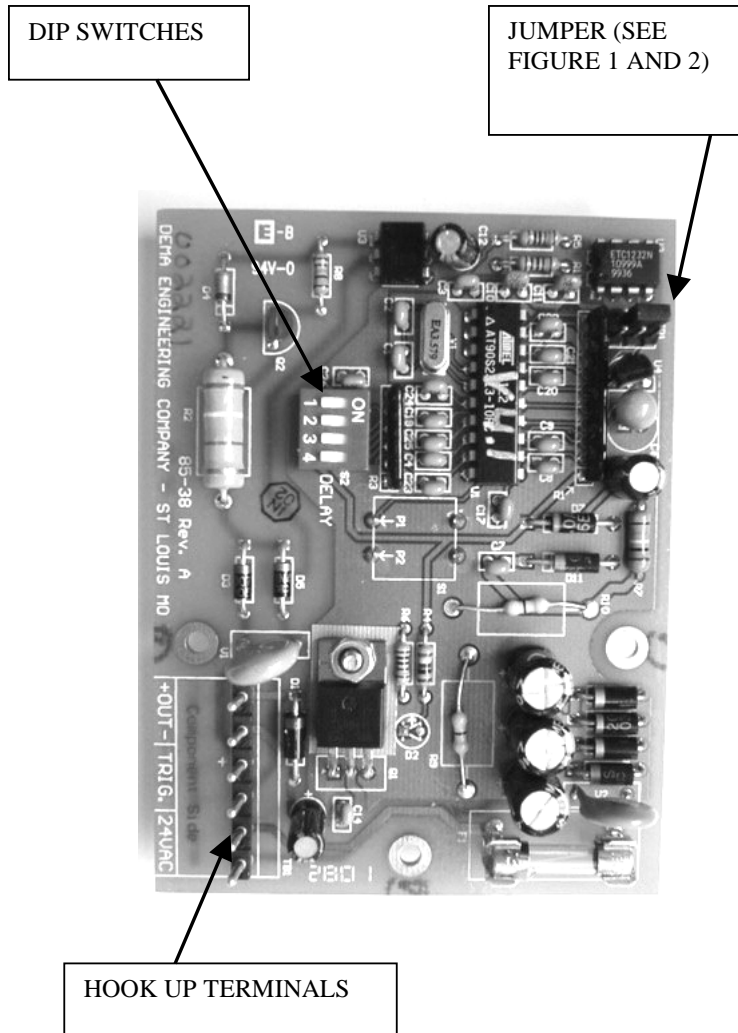

Figure 3
3. Connect the trigger signal output to the Laundry Master. The trigger signals may be between 24VAC or DC and 240VAC or DC. Some laundry machines are equipped with a terminal block that is designed to feed these signals. Locate the trigger connection points on the circuit boards inside the Laundry Master enclosure (See wiring diagram and figure 3). Run appropriate wiring between the laundry machine trigger connection points and the Laundry Master trigger connection points. Trigger line should be secured properly by use of proper electrical fitting through access hole in Laundry Master enclosure. The signal line must also be properly secured and routed properly between the laundry machine and Laundry Master enclosure.
The lockout time is set via four DIP switches found on the control board inside the Laundry Master enclosure. See Figure 3 for DIP switch location.